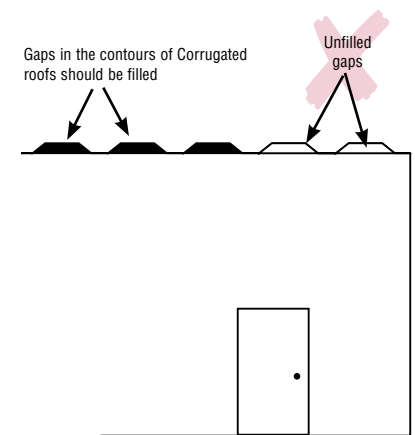

FIGURE 11
- Metal roofs are often corrugated and not sealed to the walls (figure 11). Trusses are another typical trouble spot for isolation. Make sure common openings between rooms are sealed.